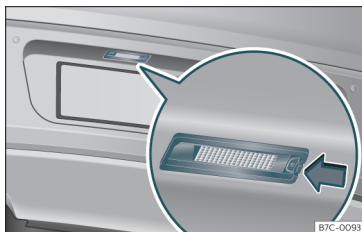

Fig. 53 In the rear bumper: Number plate light.
- Press the number plate light in the direction of the arrow»» **Fig. 53**.